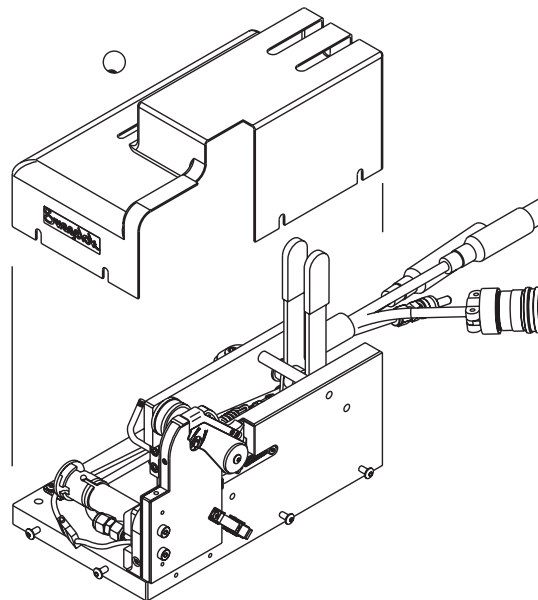

Figure 58 *Reinstalling the Metal Shroud*
21. Tighten the eight screws that hold the metal shroud in position. See Figure 58.